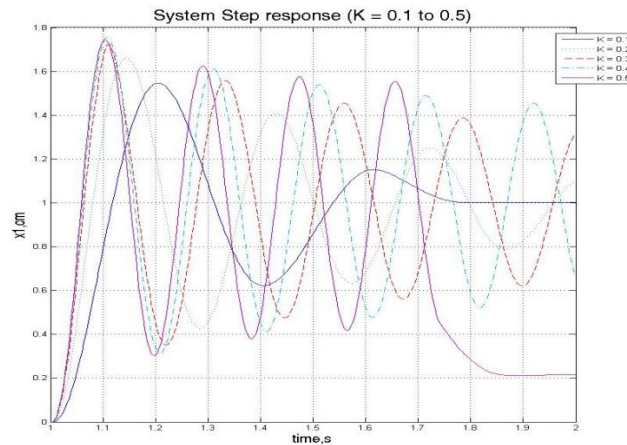

Figure 2: Step responses for $K = 0.1$ to 0.5
1. Plot all of the step response on two sets of axes with no more than 5 step responses per axes. Make sure the plot has a title, axes labeled and a legend to make it clear which gain corresponds to each step response. See Figure 2 for an appropriate step response graph. You should include these figures in your lab memo submission.